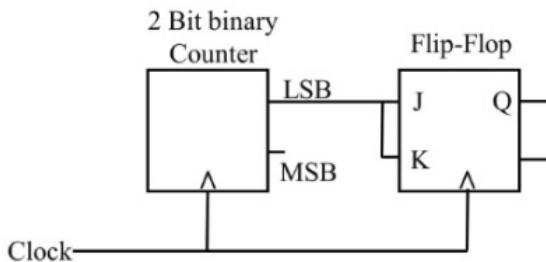

Fig. 5.13: Circuit
13. For the circuit shown in Fig. 5.13, the clock frequency is  $f_0$  and the duty cycle is 25%. For the signal at the Q output of the flip-flop, (GATE EC 2022)